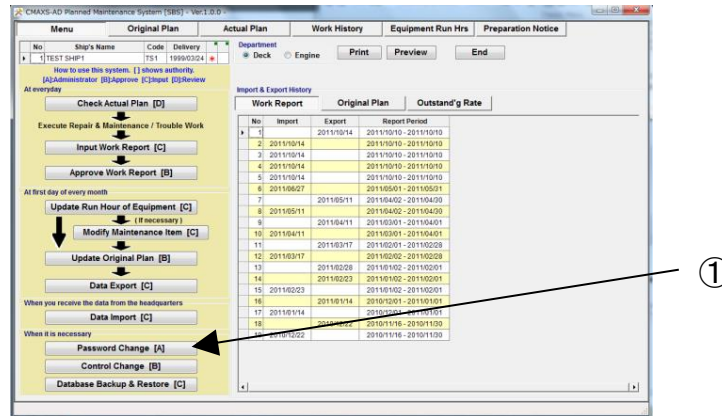

Fig.13-1 Menu Screen
(1) Select [Password Change] button on the "Menu screen" (Fig.13-1).